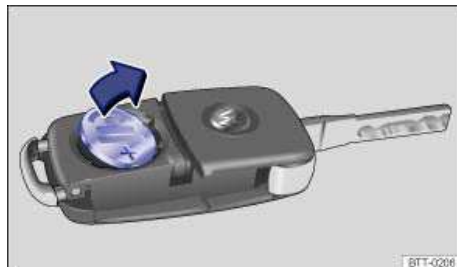

Fig. 31 Remote control vehicle key: Remove old battery.
- Use a thin object to pry the battery out of the battery compartment ⇒ fig. 31.